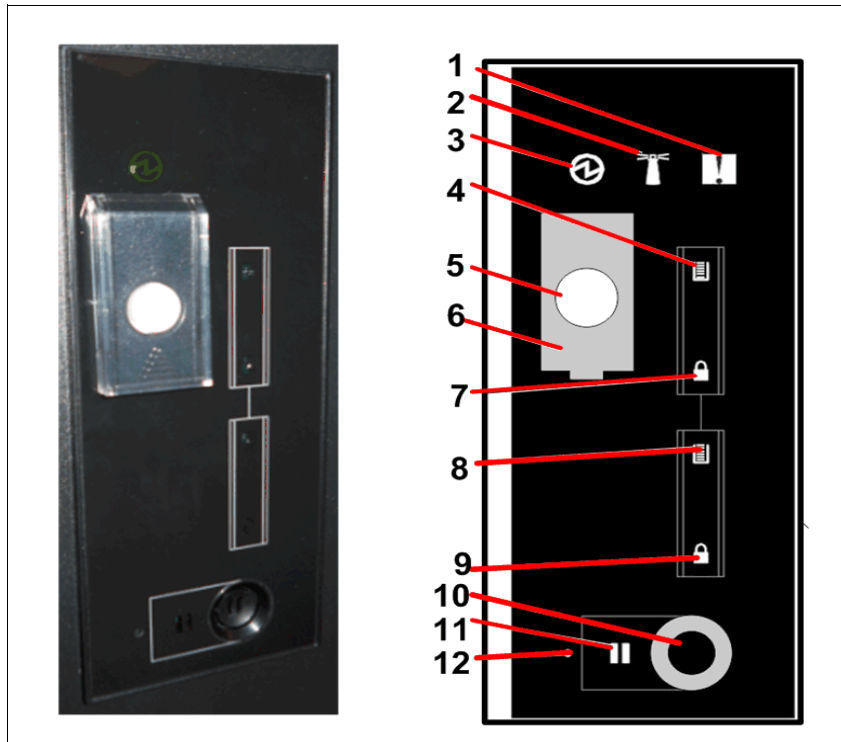

Figure 1-43 Display panel
The display panel on the base frame of the TS4500 tape library houses the library power and pause buttons. It displays library and I/O status indicators, as shown in Figure 1-43.
You pause the library by pressing the pause button on the display panel (number 10 on Figure 1-43 on page 47) on the base frame of your TS4500 tape library. This pause button causes the library to move the cartridge accessor to the base frame and pause operations for 30 seconds or while a frame door is open. The pause light next to the pause button stops blinking, and it illuminates solid to indicate that the library is paused (number 11 on Figure 1-43 on page 47).
- ▶ From the display panel on the base frame of the library, slide the plastic cover that protects the power button up to expose the button (number 6 on Figure 1-43 on page 47).
- ▶ Press the power button (number 5 on Figure 1-43 on page 47) and wait to see that the green power indicator turns on and stays on.
- ▶ Pause the library by pressing the pause button on the display panel (number 10 on Figure 1-43 on page 47) on the base frame of your TS4500 tape library. This pause button causes the library to move the cartridge accessor to the base frame and pause operations for 30 seconds or while a frame door is open. The pause light next to the pause button stops blinking, and it illuminates solid to indicate that the library is paused (number 11 on Figure 1-43 on page 47).
- ▶ Press the power button (number 5 on Figure 1-43 on page 47) and wait until the green power indicator light turns off.
Press the Access Recovery button, See Figure 1-43 on page 47.